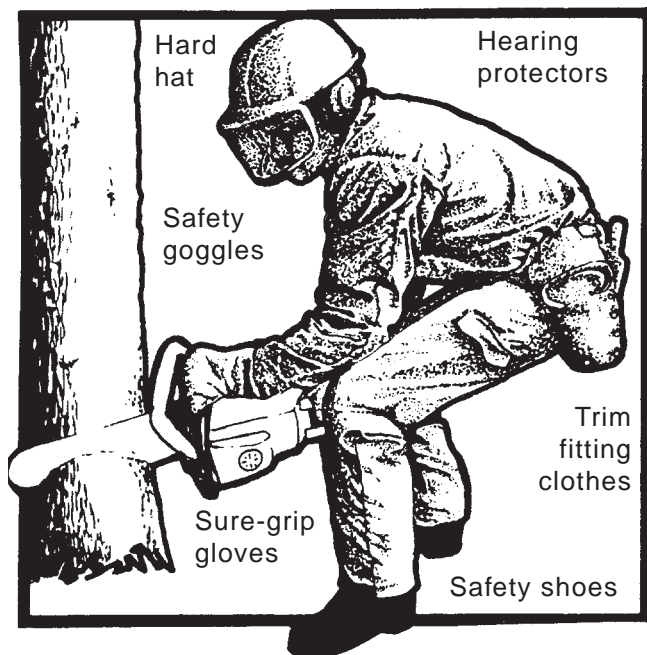

Figure 3. Proper clothing and equipment can reduce injury.
- **Clothing** should be well-fitted and free of dangling or ragged edges that could become entangled in either the saw or brush (see Figure 3).